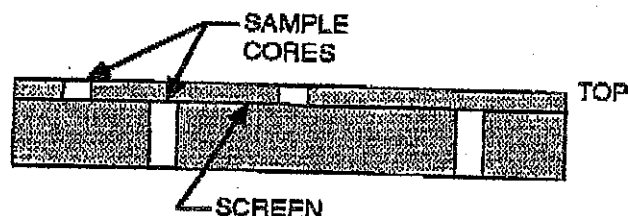

Figure 4-3. Catalyst Sample Cores
4. Once a year, remove sample cores from the test bed. (Refer to Figure 4-3.) A sample consists of a short core from the top two inches of the bed and a long core from the bottom five inches of the bed.